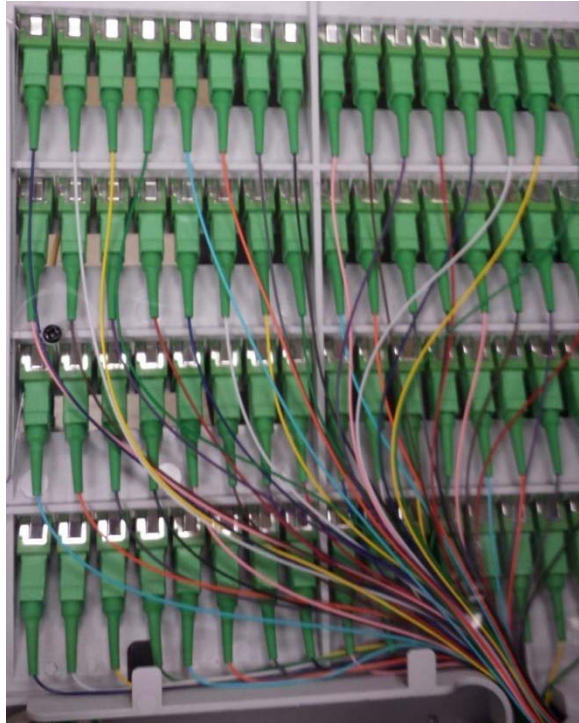

Figure 30 – Fiber protected by clear blister cover
- 1.7.3 Accommodate the fibers along the way and attach the blister into position with the screws. (Figs.30 e 31);